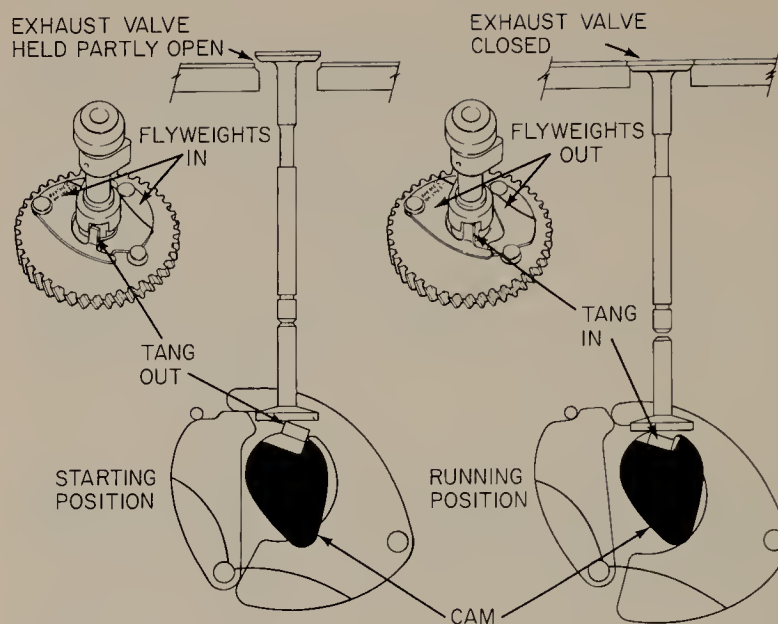

FIGURE 4.12 Operation of the automatic compression release. (Kohler Company.)
4.8 Automatic Compression Release. Cranking an engine is not the easiest thing in the world. To pull the engine through the compression stroke requires some effort, either muscle power or starting-motor power. One way to reduce this effort is to partly release compression during cranking. One method of doing this is shown in Fig. 4.12. The mechanism involved consists of a pair of flyweights on the camshaft drive gear. When the engine is not running, the flyweights are held in their inner position by springs, as shown to the left in Fig. 4.12. In this position, a tang on the end of one of the flyweights has moved out of a notch in the base circle of the exhaust cam, as shown to the lower left. Now, when the engine is cranked for starting, this tang prevents the exhaust valve from closing completely. Every time the base circle of the cam comes around under the valve tappet of the exhaust valve, it prevents the tappet from moving all the way down. With the exhaust valve held partly open, some of the compression pressure is relieved.
After the engine starts and engine speed increases, centrifugal force acting on the two flyweights forces them to move out into the running position, as shown to the right in Fig. 4.12. This movement
allows the tang on the end of one of the flyweights to move into the notch in the base circle of the cam, as shown to the lower right in Fig. 4.12. Now, when the base circle of the cam for the exhaust valve comes around under the valve tappet, the valve tappet can come all the way down and thus allow the exhaust valve to close completely. Now, engine operation continues in a normal manner as long as the engine speed is maintained. However, if the engine is stopped, then the springs will cause the flyweights to move into the starting position, as shown to the left in Fig. 4.12 in readiness for another starting cycle.